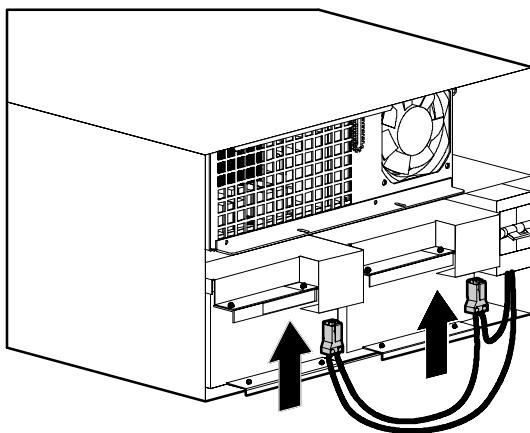

Figure 10. Connecting the Battery Cables
8. Connect the battery cable to the battery connector on the left battery tray. Repeat for the right battery tray (see Figure 10).